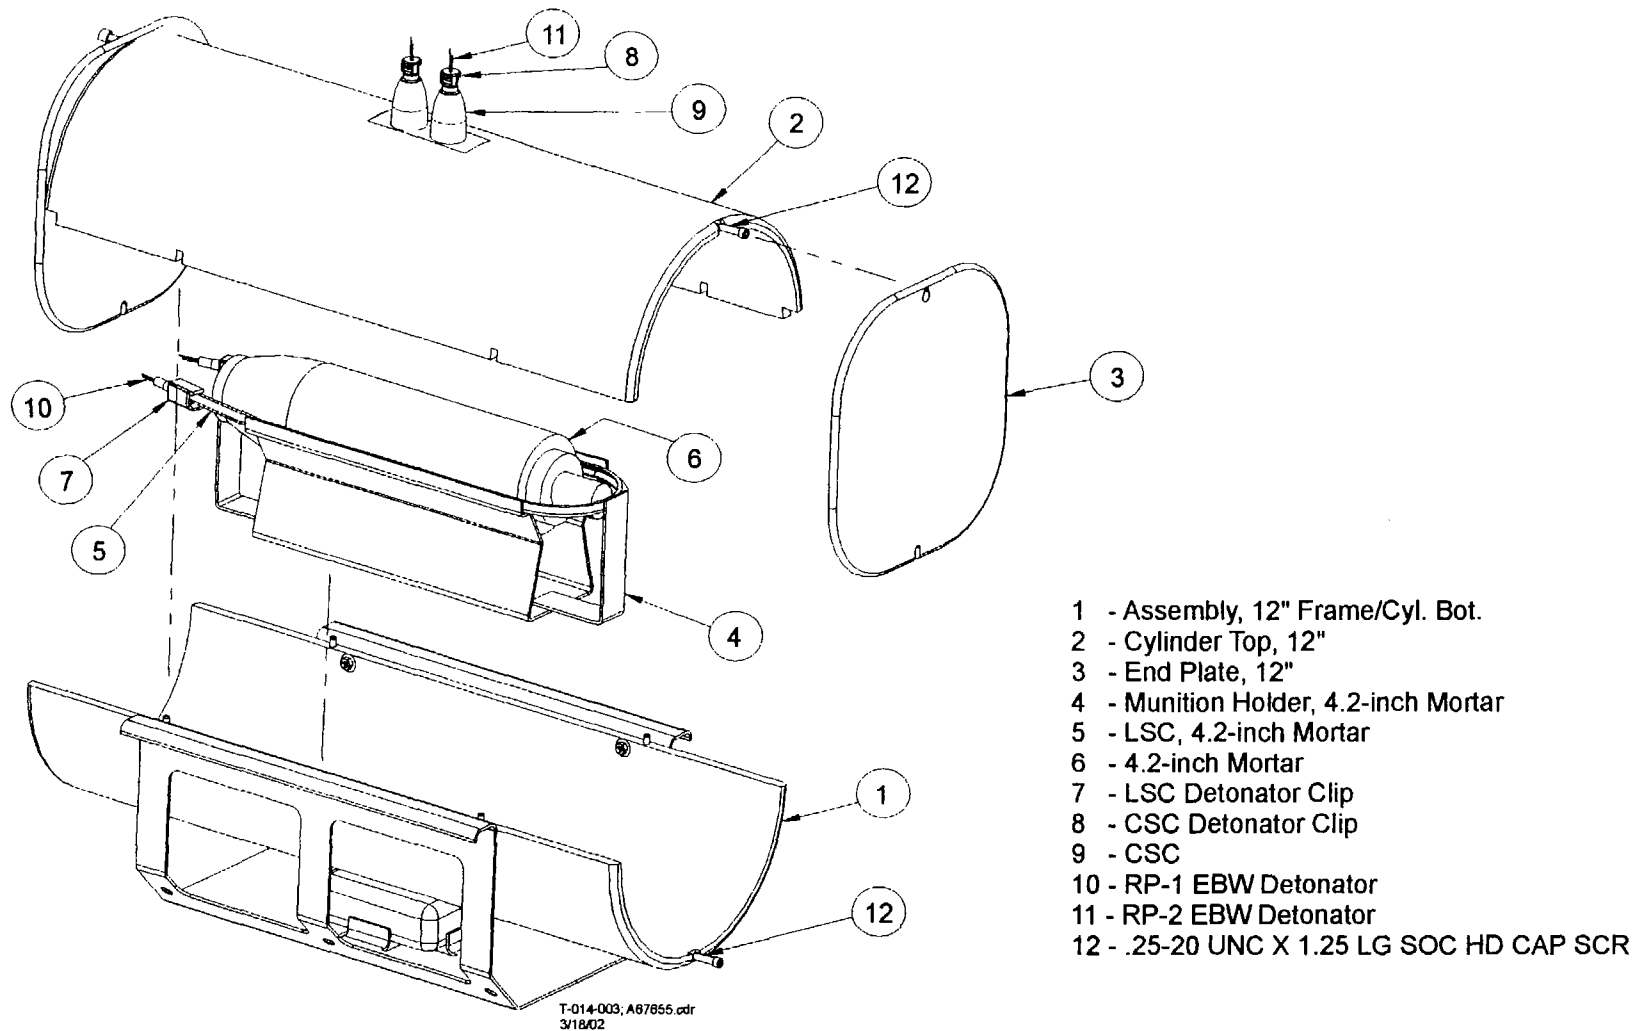

Figure 7-3. 4.2-inch Mortar FSS
5.3 **PLACE** 4.2-inch mortar onto munition holder so it rests securely in holder with aft end of munition flush with end of holder. Munition holder tab at aft end provides exact positioning for LSC. Tapered end of munition will be coincident with short holder tab (Figure 7-3).